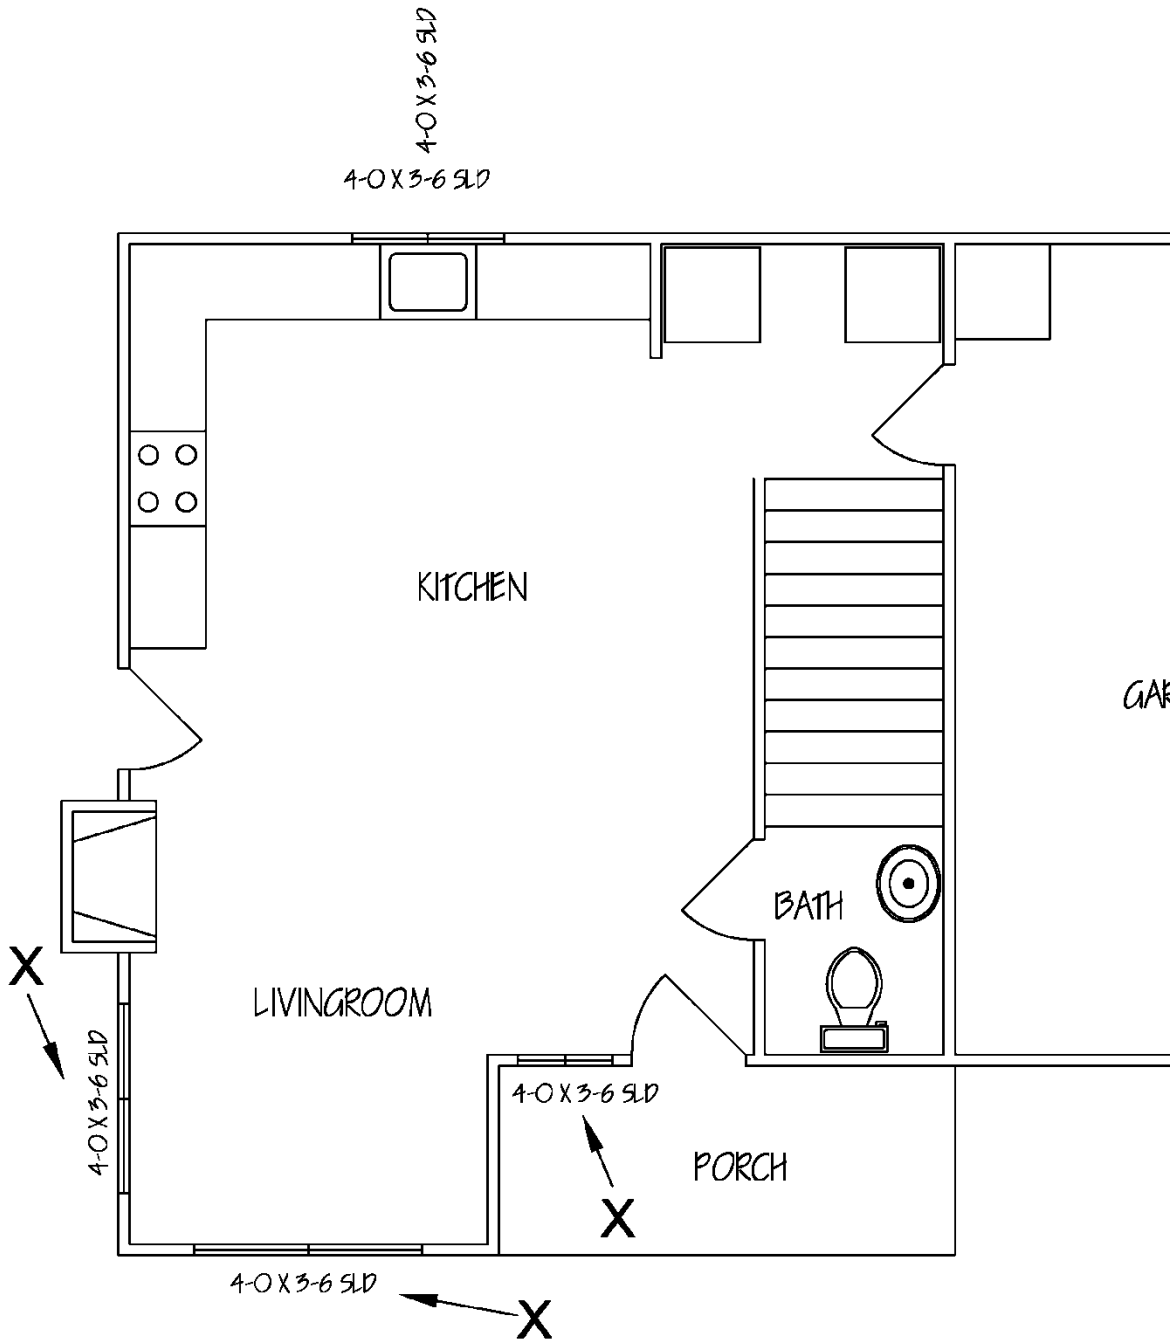

Fig 1-55
**Click** the **Rotate** button and then **click** on the **text** that you just copied <e> (at **R** in Fig 1-54). **Click** again on this same **text**. (Read the prompt: **Specify rotation angle or...**) type **90** <e>. This will rotate the copy to 90 degrees as it appears in Fig 1-54. Now **copy** these two versions of the text to the places shown in Fig 1-55 (**Object snaps off**). Place the **text** by **hand** (no snap points—just place it by eye), roughly centered on the windows. Don't worry